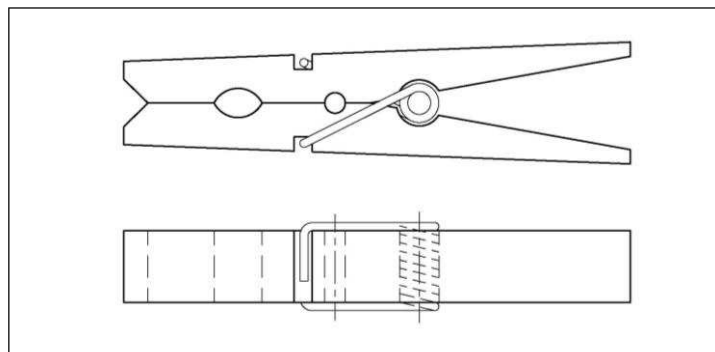
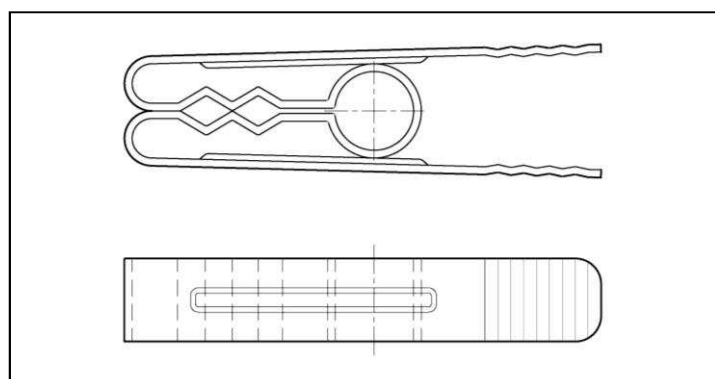

Figure 2a- Model A
Figure 2b- Model B
2. Orthographic views of two clothes peg models A and B are given below in Figure 2a and Figure 2b.